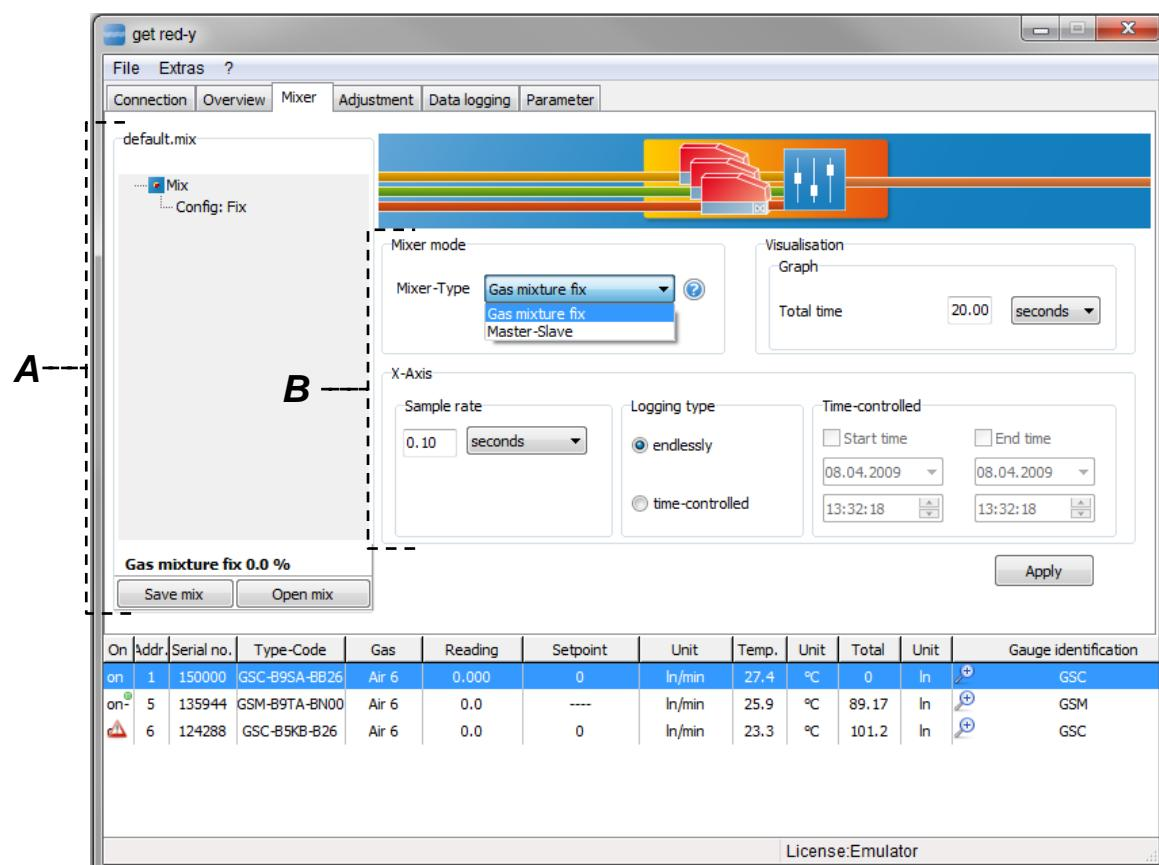

Figure 46:: Representation of the Mixer Tab
- A. Projection tree of the mixer:** The projection tree is the central administration center for the mixer. A correctly configured mixture of gas percentages can be saved with the [Save mix] and [Open mix] buttons and opened again later. Keep in mind that the saved device configuration is also present in the Device List when you are opening a mix. If you select Configuration node, View **B** appears (See Figure 46).